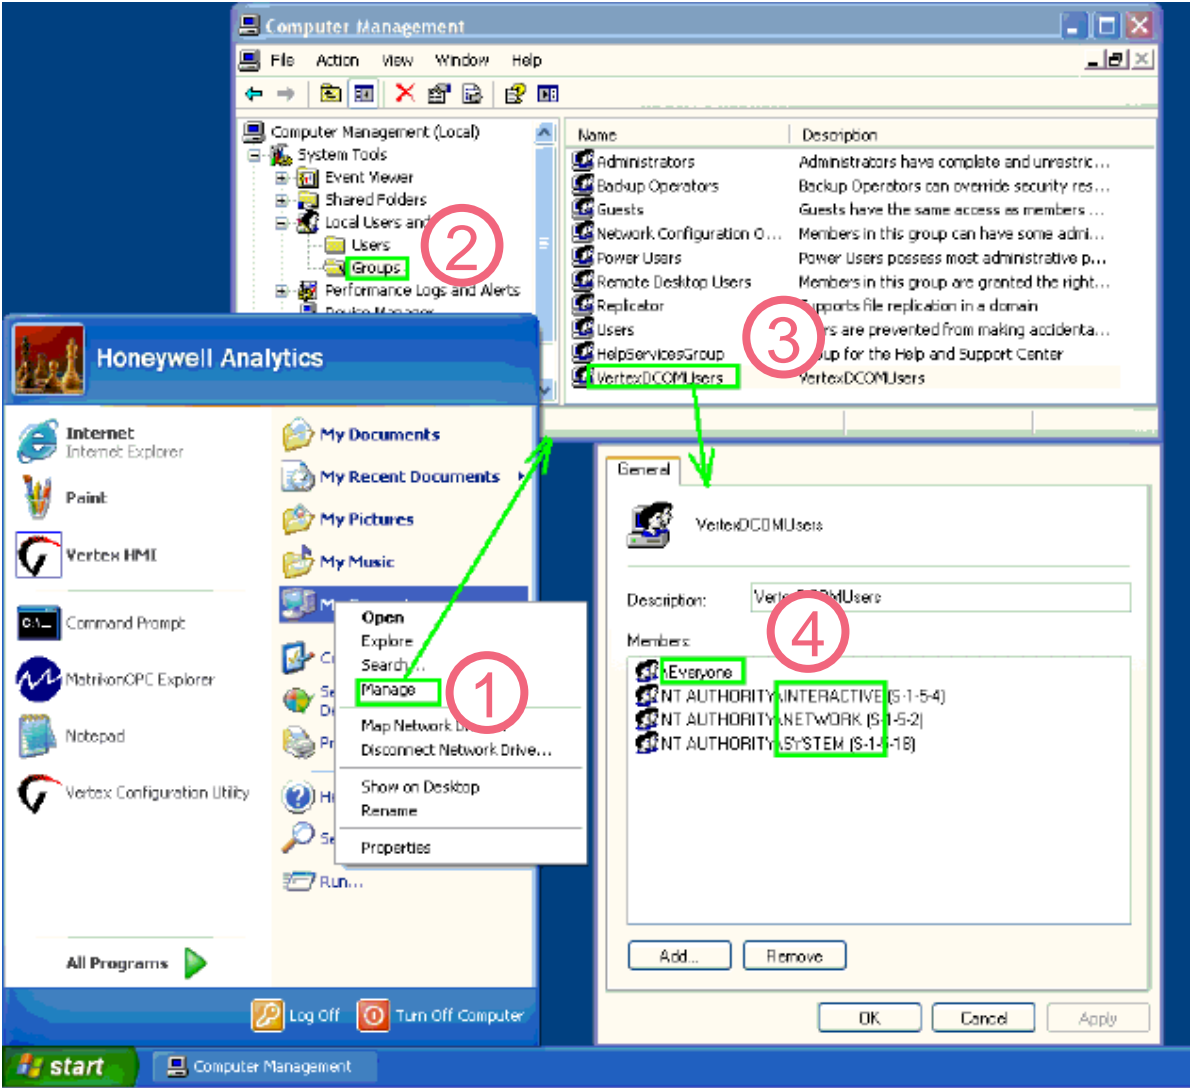

Figure A-13. Create Group “VertexDCOMUsers”
5. Add members "Everyone", "Interactive", "Network" and "System" as shown in Figure A-13.